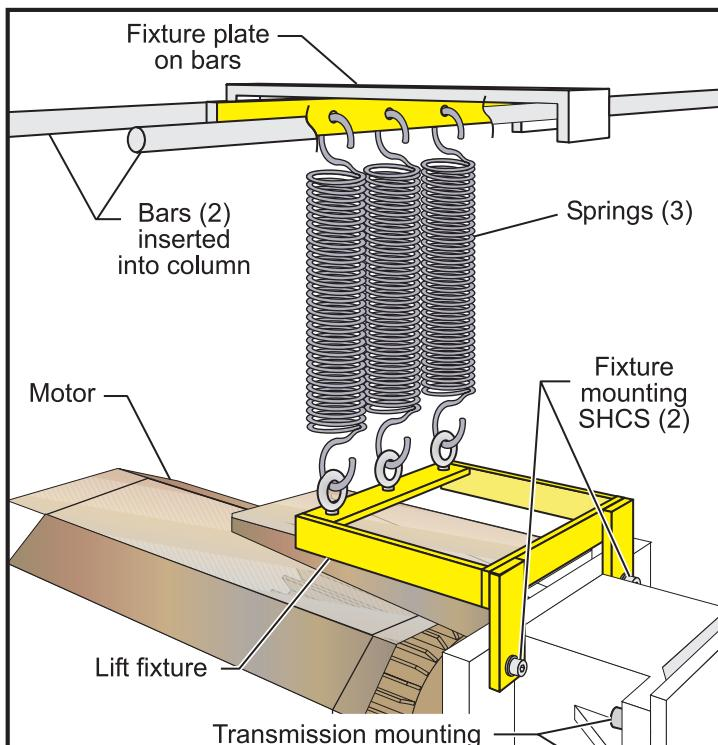

Figure 3.3-2. Belt tensioning fixture shown in place.
1. Place the lift fixture onto the transmission (Figure 3.3-2). Attach to the motor mounting plate with two SHCS.